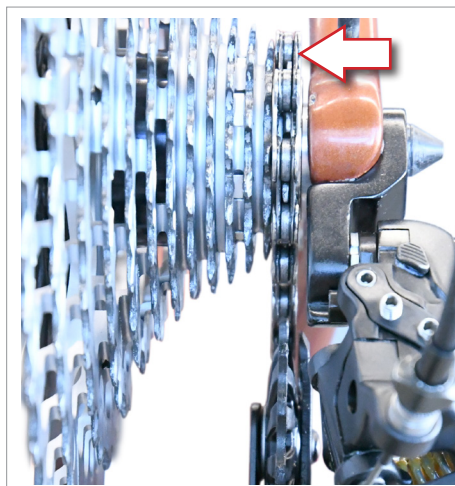
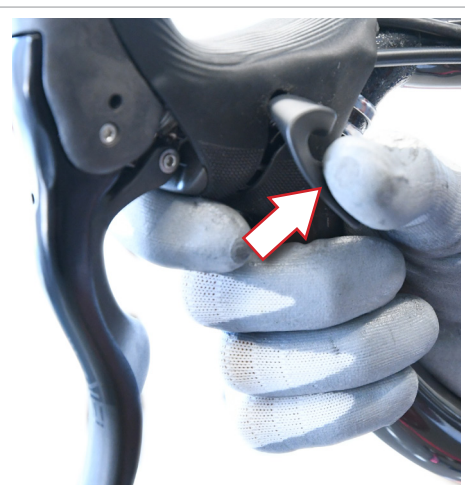

Fig.7
Fig.8
• Carry out this operation with the chain positioned on the smallest sprocket (Fig. 7) of the freewheel and with the Ergopower™ control button set to zero (Fig. 8).